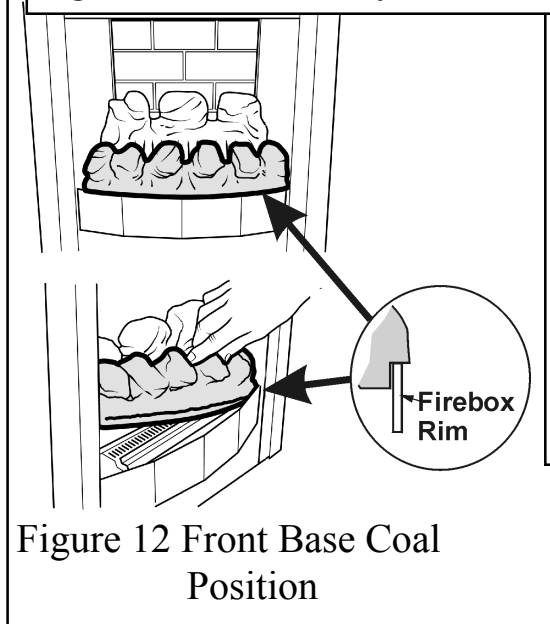

Figure 12 Front Base Coal Position
4. Place the front base coal in the firebox with its bottom front locating over the front rim of the firebox. Pull the coal forward so that it locates immediately behind the front rim of the firebox. See figure 12.